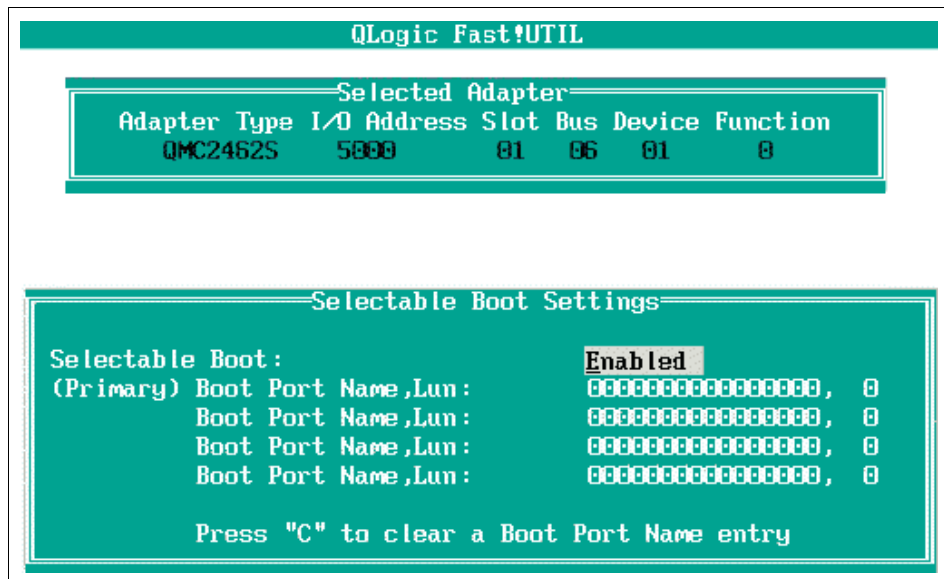

Figure 8-9 Selectable Boot Settings window
6. Select **Selectable Boot Settings** and press Enter. You will see a window similar to Figure 8-9.